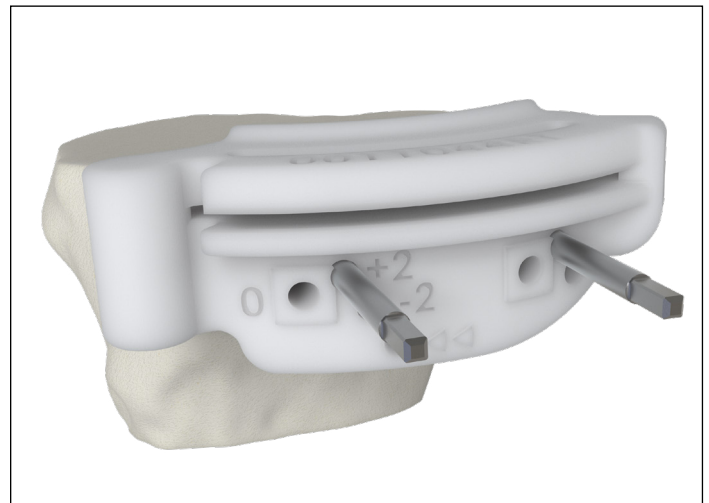

Figure 17. T1A guide placed over proximal pins at “+2”holes
1. If the proximal tibia cut needs an additional 2mm resection relative to the surgical plan, locate the pin-holes created from the T1 guide and place the pins into the previously created pin-holes. Slide the T1A guide onto the pins at both “+2” pin-hole positions (**Figure 17**).